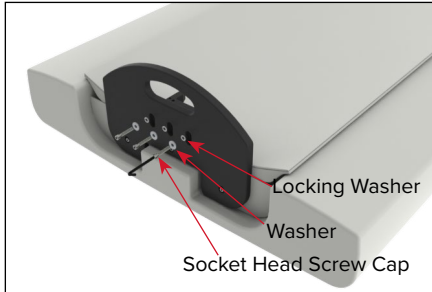

Fig. 4
- Using (3) 10-32 x 0.75" long screws with washers and lock washers provided, secure the Foot End Latch Assembly Mounting Block to the foot plate with Allen wrench provided (Fig. 4 & 5). Do not tighten screws completely.